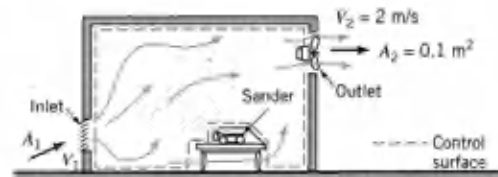

FIGURE P4.8R
4.8R (Reynolds transport theorem) A sanding operation injects  $10^5$  particles/s into the air in a room as shown in Fig. P4.8R. The amount of dust in the room is maintained at a constant level by a ventilating fan that draws clean air into the room at section (1) and expels dusty air at section (2). Consider a control volume whose surface is the interior surface of the room (excluding the sander) and a system consisting of the material within the control volume at time  $t = 0$ . (a) If  $N$  is the number of particles, discuss the physical meaning of and evaluate the terms  $DN_{sys}/Dt$  and  $\partial N_{cv}/\partial t$ . (b) Use the Reynolds transport theorem to determine the concentration of particles (particles/ $m^3$ ) in the exhaust air for steady state conditions.